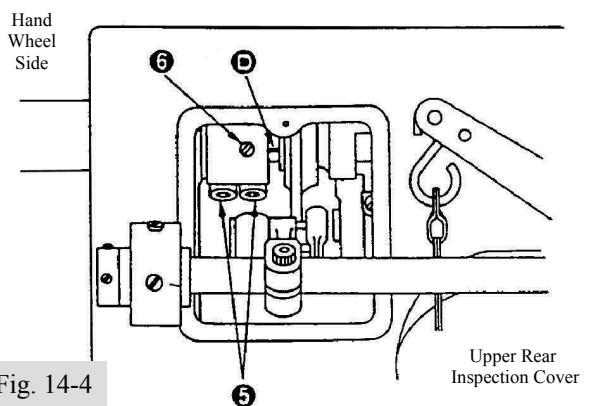

Fig. 14-4
3. With the stitch length lever set to the "0" position, turn the hand wheel in a counter-clockwise rotation and place the needle bar to the "Bottom-Dead-Center" position. At this point align Allen Screw #6 to the 9:00 O'clock position and in the same plane as the line "D" shown in Fig. 14-4.